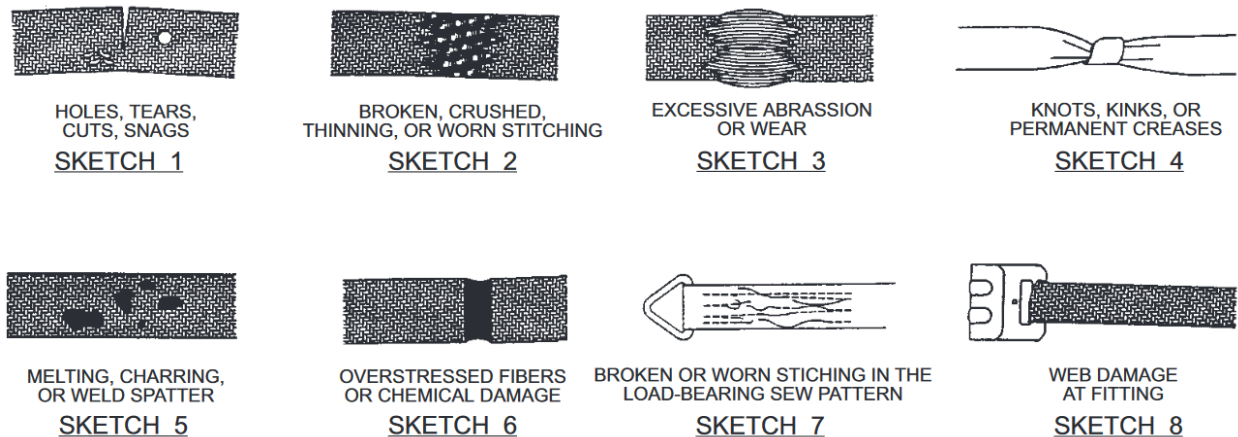

Figure 5.3
5.5.2.3 A synthetic webbing and/or tie-down assembly must be removed from service if any of the following conditions are present. See Figure 5.3.